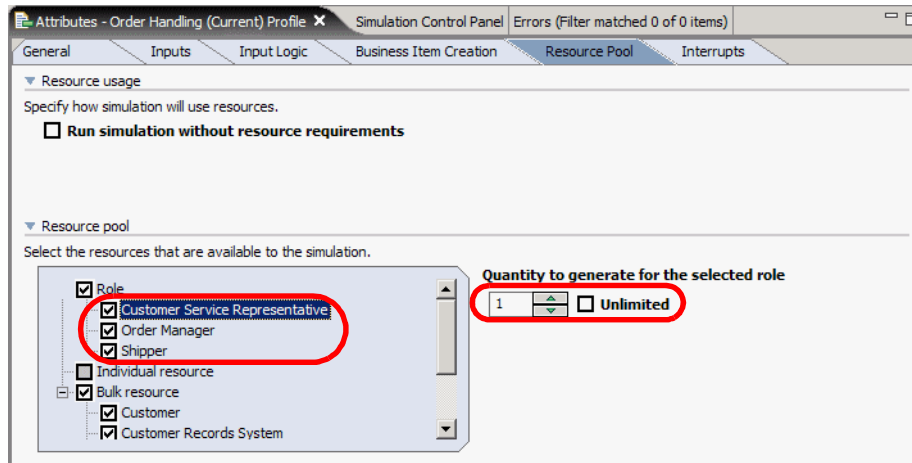

Figure 5-17 Simulation profile: Resource pool
- Finally, populate the number of human resource available in the *Resource pool* tab (Figure 5-17):